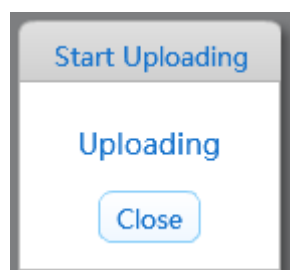
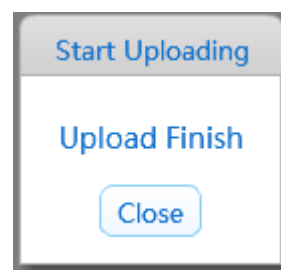

Figure 2-3-3
Figure 2-3-4
- 2) Click on any building blocks in the script area with the mouse. On the right side of the building blocks area, the corresponding building blocks program code will appear. Click "Upload to Arduino", start to generate the building blocks offline code and upload it to the Hummerbot Robot. The screen will display a prompt window "Upload in", as shown in Figure 2-3-3; after the upload is completed, the prompt "Upload completed" will appear as shown in Figure 2-3-4.